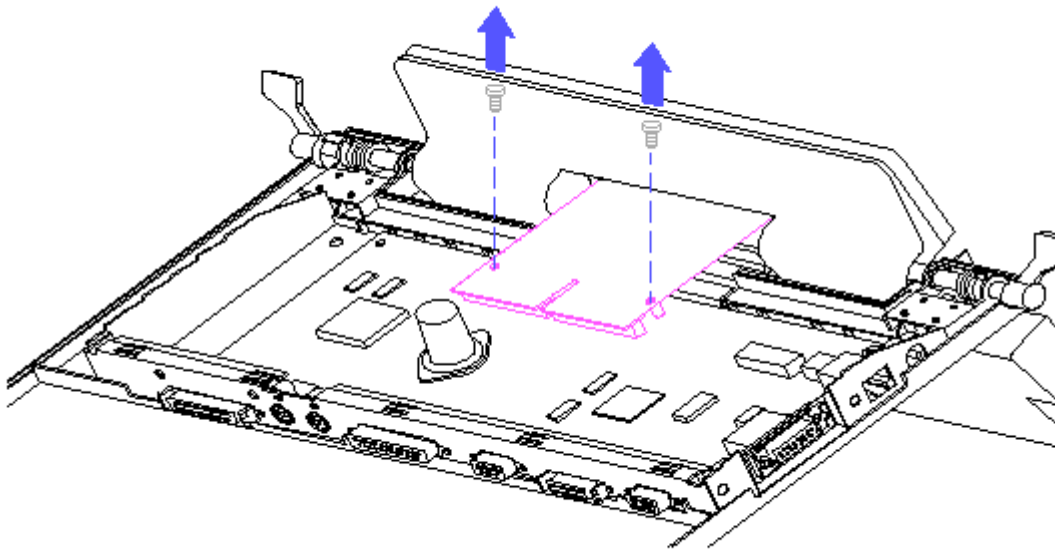

Figure 4-19. Disconnecting the Flex Cable
5. Remove the two screws securing the flex cable to the interface board and disconnect the flex cable from the interface board (Figure 4-19).